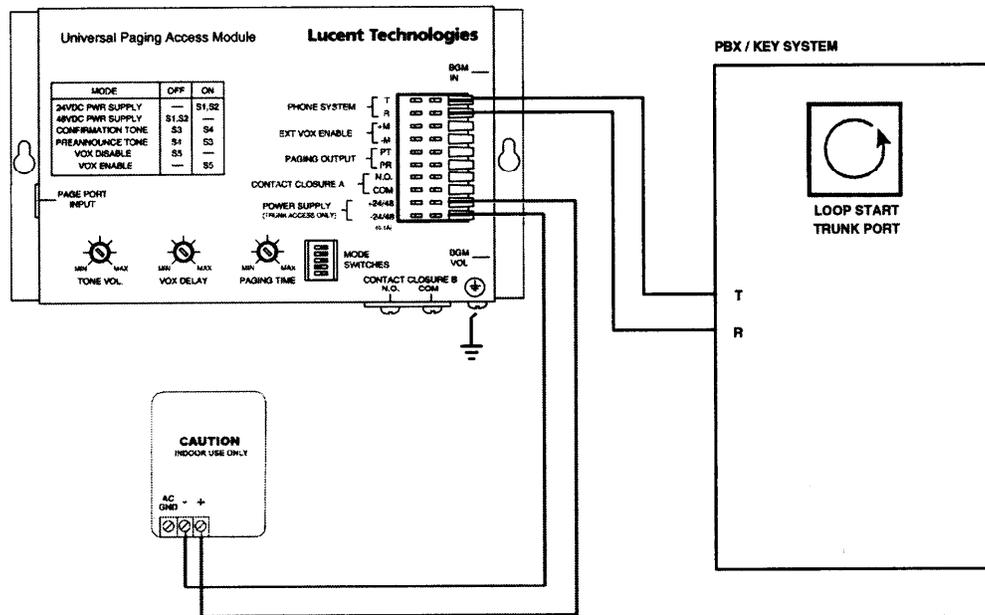

Figure 2: Trunk Port Connection: Loop Start Trunk Port
5. Connect "Tip" of trunk port to T terminal on UPAM (see Figure 2).